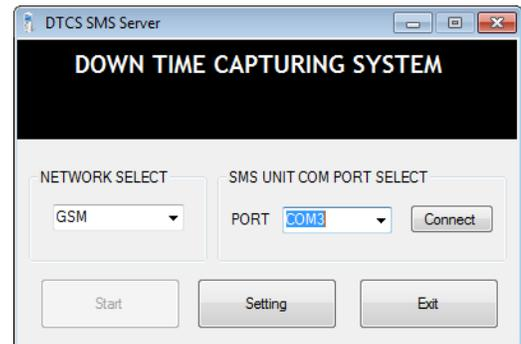

Figure 5.2
- Then, the “DTCS SMS Server” software will appear as in figure 5.2